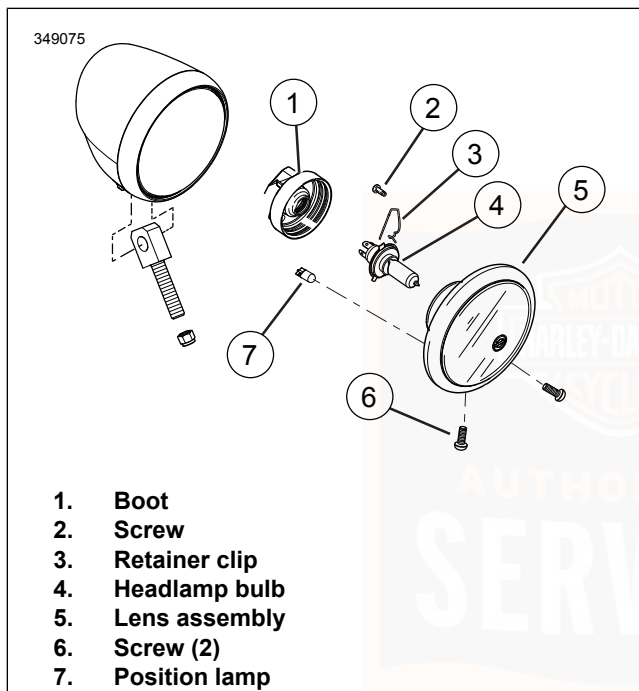
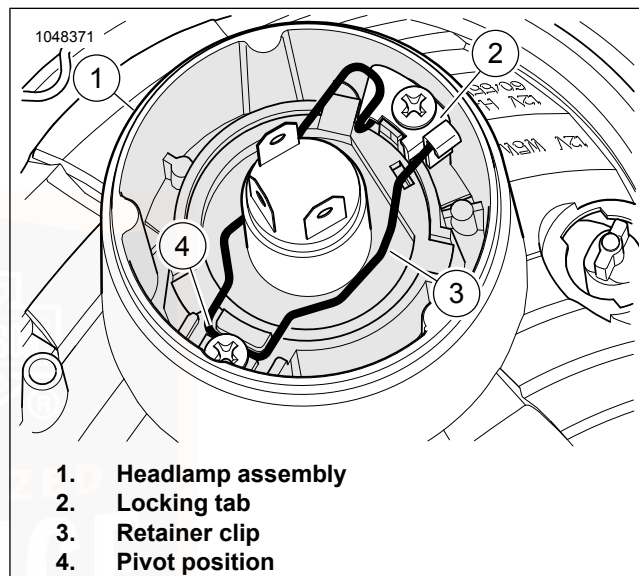
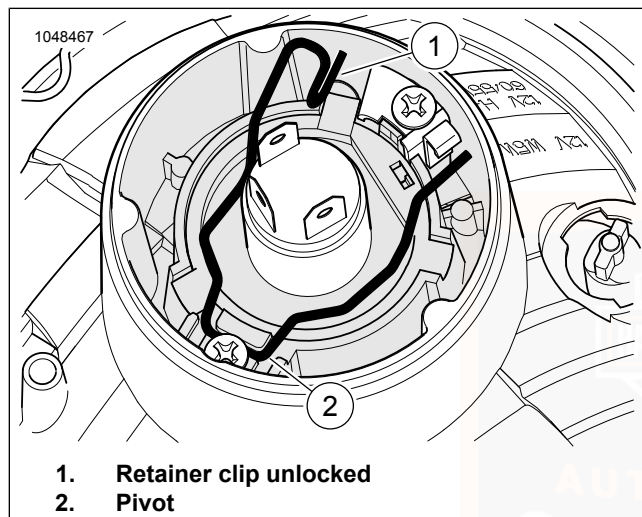

Figure 55. Headlamp Bulb
Figure 56. Headlamp Retainer Clip Locked
Figure 57. Retainer Clip Unlocked
3. See Figure 55. Remove lens assembly (5).
- a. Remove screws (6).
4. Remove boot (1).
5. See Figure 56. Unlock retainer clip (3).
- a. Push down on retainer clip on both sides of the locking tab (2).
- b. See Figure 57. Move retainer clip outward to the unlocked positions (1).
1. See Figure 55. Install headlamp bulb (4).
- a. Align headlamp bulb tabs with tabs on lens assembly (5).
- a. See Figure 57. Pivot retainer clip downward 45°.
3. See Figure 55. Install lens assembly (5).
- a. Install boot (1).
- c. Install lens assembly (5).
- d. Install screws (6). Tighten.